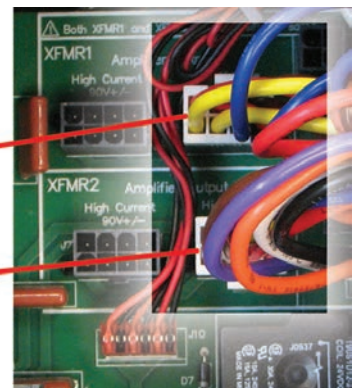

Figure 4.13 – J4 and J8 Plug Locations for High-Voltage Output
3. For High Voltage (180V) Output (see **Figure 4.13**).